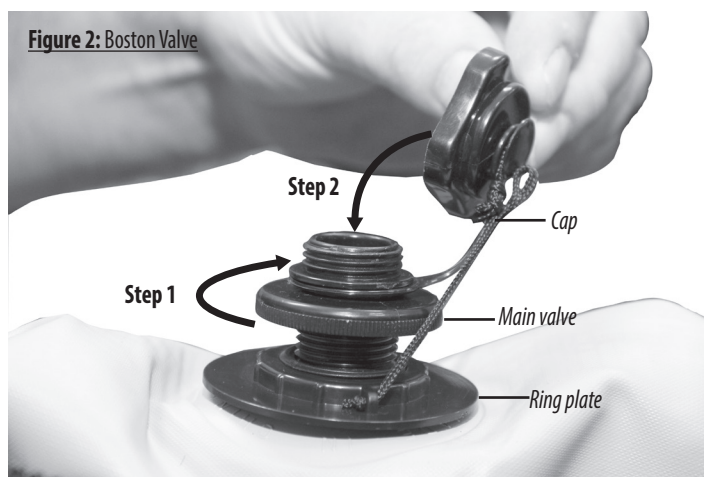

Figure 2: Boston Valve
2) Unfold the kayak completely to prepare for inflation. The Floor valve (#1) is a Boston-type valve. The Main valve must be securely screwed into the Ring Plate before inflation as shown in **Figure 2, Step 1**. Inflate the floor with the valve closed.
3) First inflate the Floor (#1) to 1.0 psi (0,07 bar). Once inflated, firmly cap each valve as shown in **Figure 2, Step 2**. **DO NOT OVER-FILL.**
4) Next prepare the Side Tube valves (#2), which are also Boston-type valves. The Main valve must be securely screwed into the Ring Plate before inflation as shown in **Figure 2, Step 1**.
5) Inflate the Side Tubes (#2) to 2.0 psi (0,14 bar). **DO NOT OVER-FILL.** Once inflated, firmly cap each valve as shown in **Figure 2, Step 2**.
10) It is possible to leave seats and footrests in place after use. To deflate, open the Floor valve (#1) and Side Tube Valves (#2). To prevent tangling **ALWAYS** dis-assemble parts in **REVERSE** order (**Steps 2, 1**) as shown in **Figure 2**.
- 2 a. IF the leak is in a section of the kayak which is covered in polyester fabric, locate the zipper for the leaking section and open it to access the bladder. Remove the Boston valve Cap, Main Valve AND Ring Plate (**see Figure 2 for details**). Once this is done, remove the bladder from the cover.